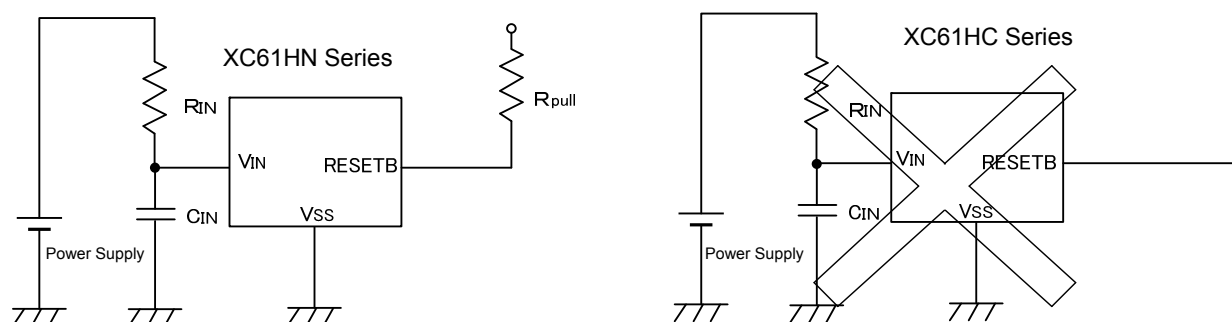

Figure 1 Use of input resistor  $R_{IN}$
2. When a resistor is connected between the  $V_{IN}$  pin and the power supply with CMOS output configurations, irregular oscillation may occur as a result of voltage drops at  $R_{IN}$  if load current ( $I_{OUT}$ ) exists. It is therefore recommend that no resistor be added. (refer to Figure 1 below)
4. If a resistor ( $R_{IN}$ ) must be used, then please use with as small a level of input impedance as possible in order to control the occurrences of oscillation as described above. Further, please ensure that  $R_{IN}$  is less than 10k $\Omega$  and that  $C_{IN}$  is more than 0.1  $\mu F$ , please test with the actual device. However, N-ch open drain output only. (Figure 1).